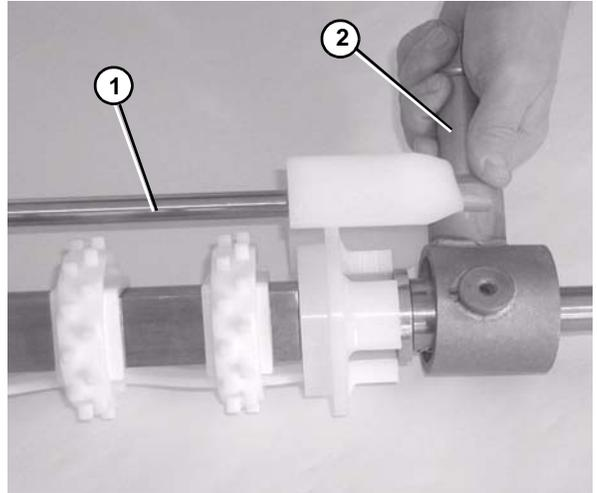

Figure 76
- Attach the guard bar (**Figure 76, item 1**) to the bearing / motor mount bracket shafts (**Figure 76, item 2**).